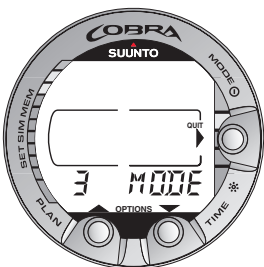

Fig. 4.1. Main menu based Mode options. [3 MODE].
1. Activate the menu based modes by pressing once the **SMART** (MODE) button in the Dive Mode (Fig. 4.1.).